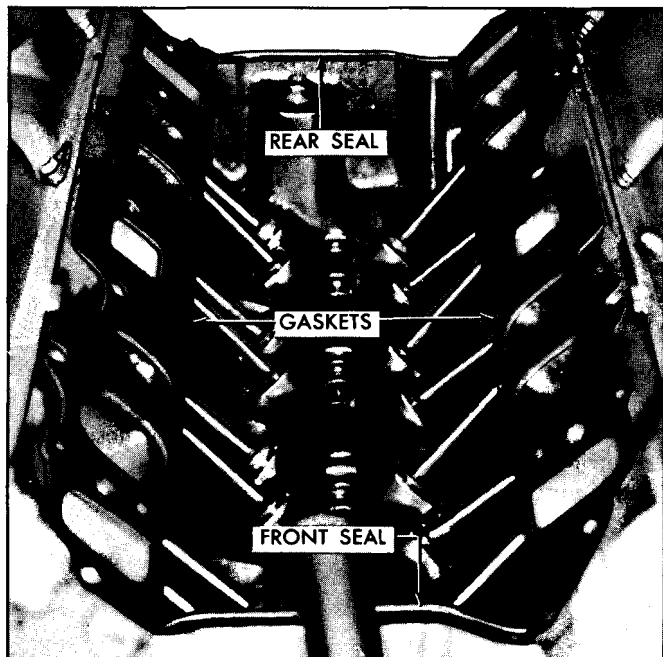

Fig. 6-101 Intake Manifold Gasket Location - 307 Engine
2. On 307 engine, install manifold end seals on block as shown in Fig. 6-101.